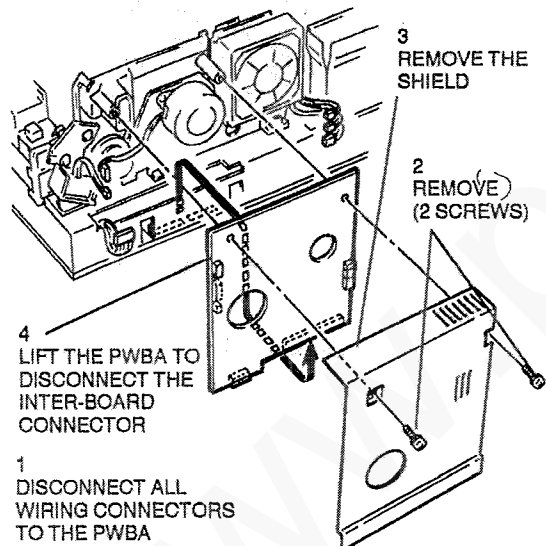

Figure 2. IOT controller PWBA removal
3. (Figure 2) Remove the IOT controller PWBA.